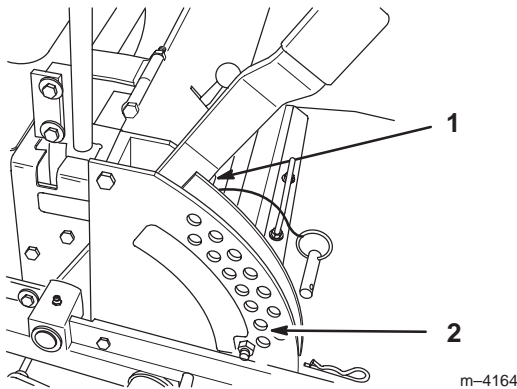

Figure 64
2. Check tire pressure of all four (4) tires. If needed, adjust to 13 psi (90 kPa)
4. Raise the deck to the transport position and take all force off of the two large deck lift springs by loosening nut in front of each spring (Fig. 64).
5. Place two 1-1/2" (38 mm) thick blocks under rear left and right lower edge of mower. Place one 2-1/4" (57 mm) block under front center lower edge of mower. Lower mower to the 2" (51 mm) height-of-cut position (Fig. 64).
1. Raise deck lift lever to the transport position, (Fig. 64).